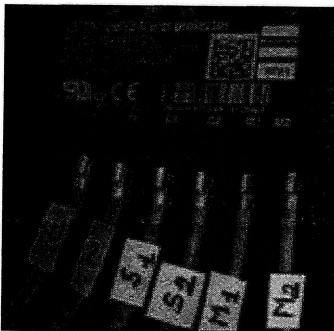

fig. 1
3. Before removing wires, label the wires so they can be connected to the correct connections on the replacement module (fig 1). Firstly unplug only the wires of the lower part of the module (fig 2)